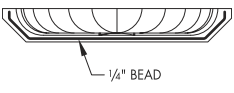

FIGURE 1A
1. Apply a 1/4" bead of polyurethane construction adhesive along the bottom edge of the Niche tub (**SEE FIGURE 1A**).